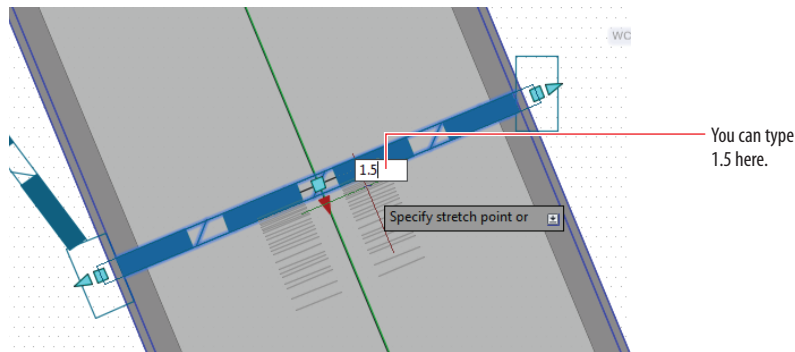

FIGURE 14.11 Using Dynamic Input to enter a pipe diameter value
7. Drag the grip away from the pipe, and click when the dynamic input text box reads 1.5 (0.450). Or you can just type 1.5 (0.450) in the box, as shown in Figure 14.11.